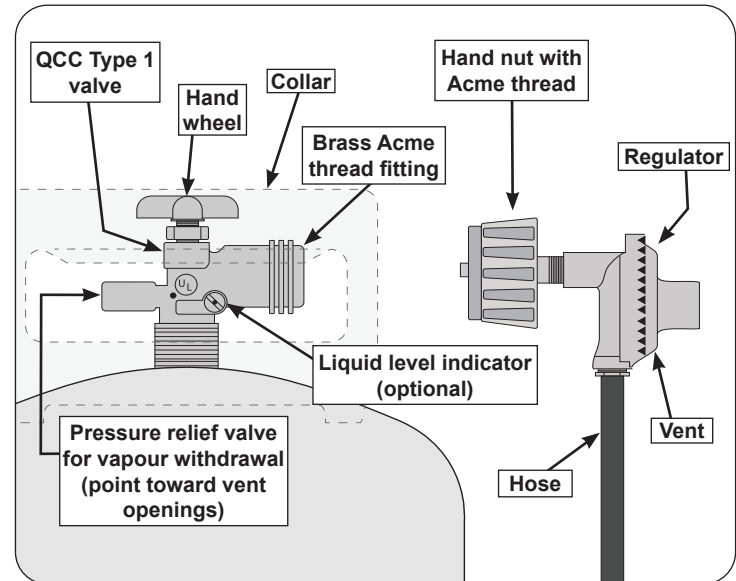

Fig. 5-1 Type I Acme thread coupler
- The cylinder used must include a collar to protect the cylinder valve. The cylinder supply system must be arranged for vapour withdrawal. See Fig. 5-1.
- When used with a cylinder, the gas supply system must be used with a pressure regulator. The pressure regulator and hose assembly (**not supplied**) used must match the specification for Type I by ANSI Z 21.58/CGA 1.6 and must comply with UL 144 as a part of the self-contained LP gas supply system (see Fig. 5-1).
To disconnect: Turn the hand nut counterclockwise until detached (Fig. 5-1).